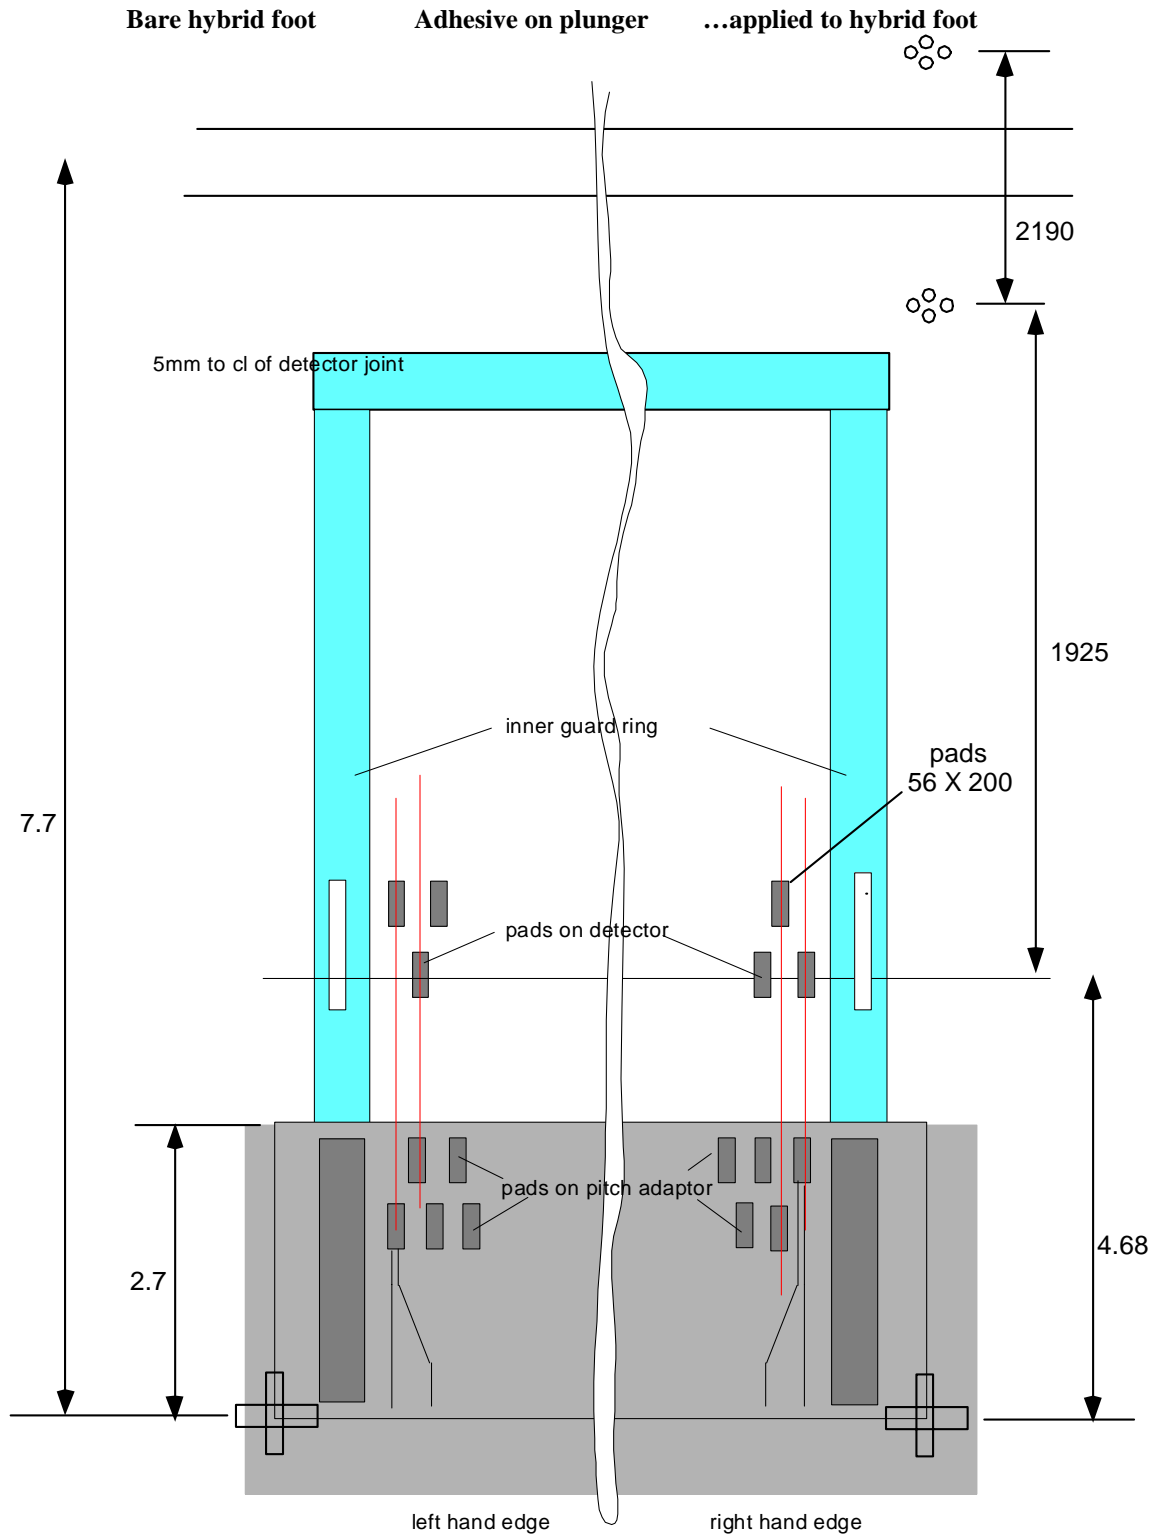

Figure 1
4. Check the “y” distance from the detector pad’s centre to hybrid ”+” is 4.68mm, as shown by Figure 1, using the alignment marks on the optics (graticule). There is an adjuster to move the whole platen in y to aid this alignment.